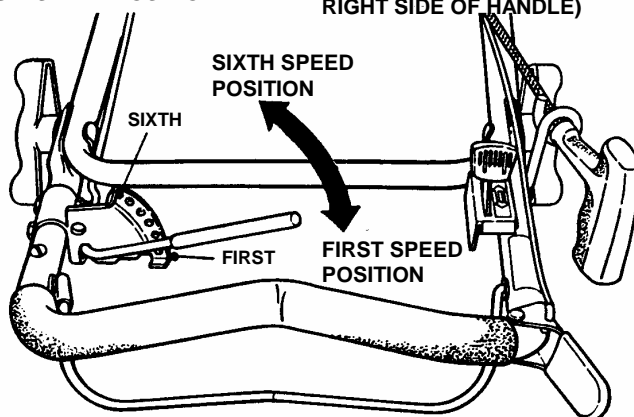

FIGURE 4.8
1. Place shift rod in the number six speed position. See Figure 4.8.